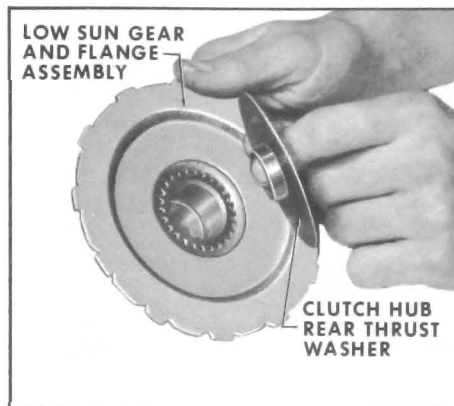

Figure 5-236
10. Install clutch hub rear thrust washer with its flange toward low sun gear and flange assembly. See Figure 5-236.